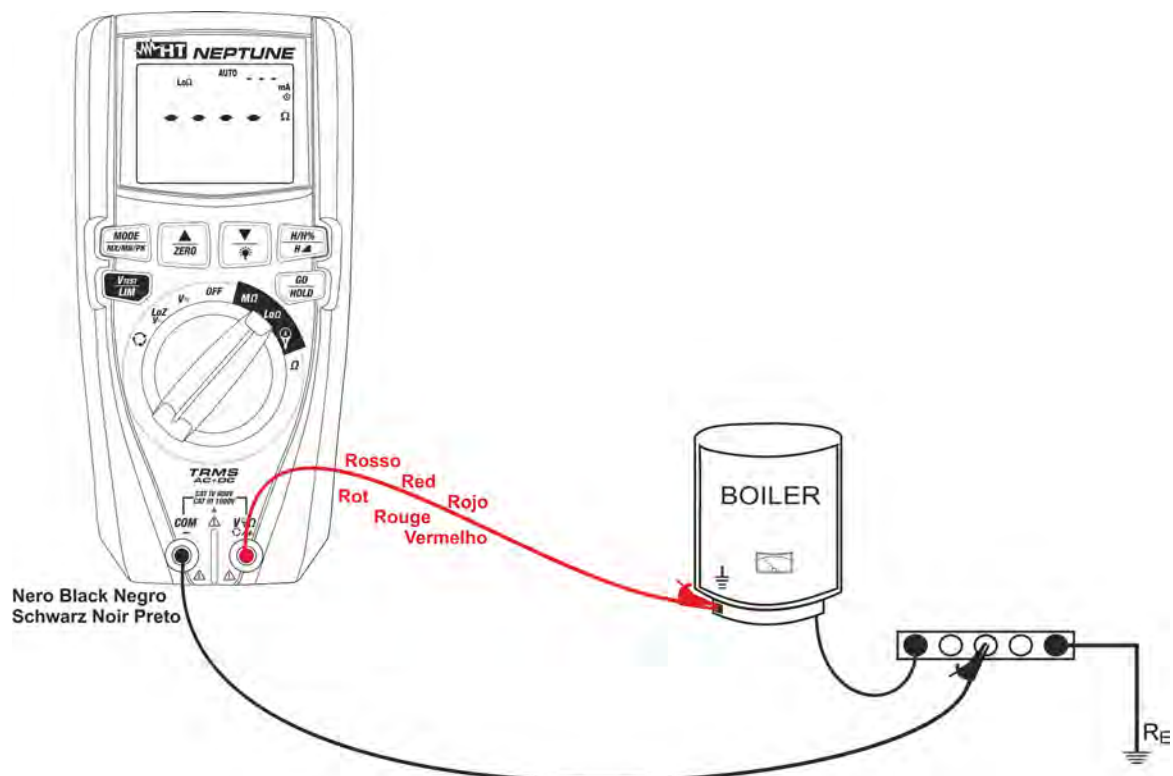

Fig. 25: Use of the instrument for continuity test in AUTO mode
7. Insert the red lead into input terminal **V Ω +** and the black lead into input terminal **COM/-**, and connect the instrument to the system to be tested (see Fig. 25).